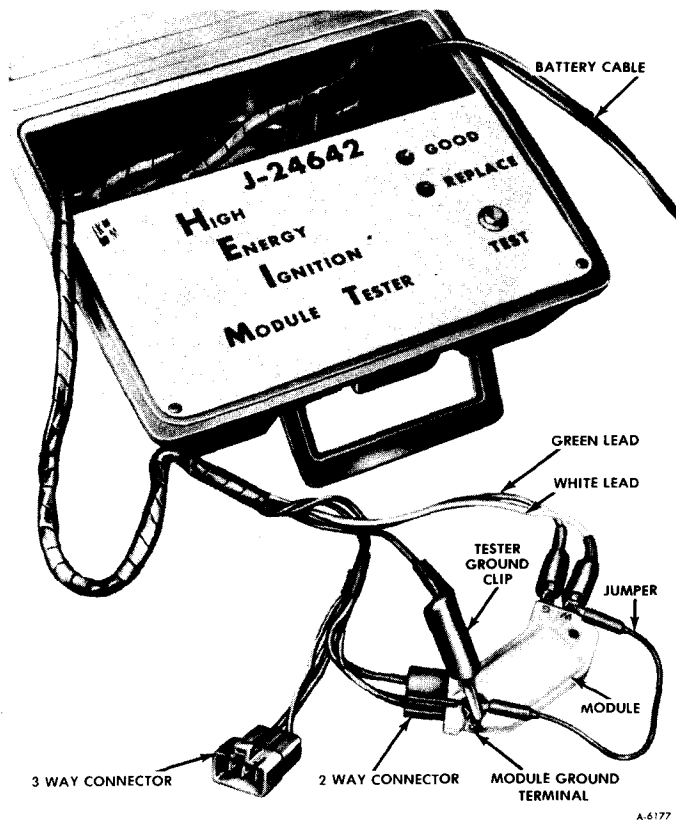

Figure 18—Check No. 3 with Tester J-24642-101
1. To the setup of Check 2, add a jumper wire connecting the "W" and ground "G" terminal of the module as shown in figure 18.